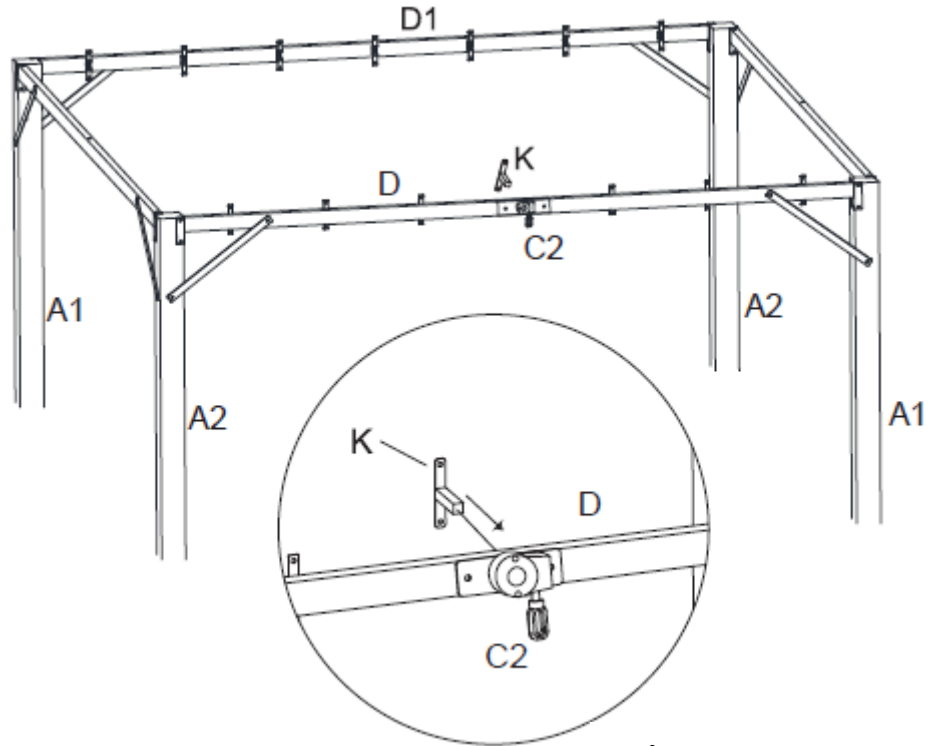

Figure 5
Step 5: Insert Rotating Device Connector (K) into the middle hole of Lintel with Rotating Device (D). See Figure 5.